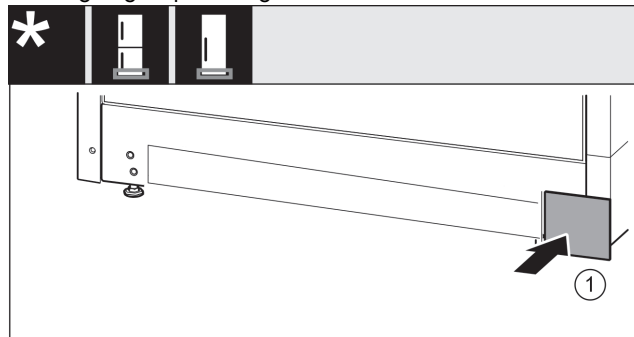

Fig. 35
- Put back the cover on the other side. Fig. 35 (1)